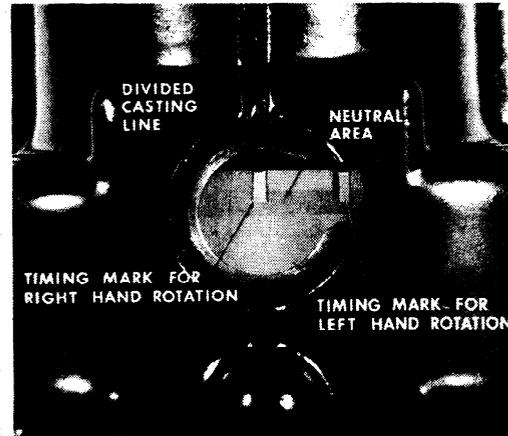

Figure 2. Alignment of Magnet Marks – Right Hand Rotation
b. Continue turning the engine slowly, still in the direction of normal rotation, until the proper timing mark on the rotating magnet is centered in the viewing hole. Figure 2 illustrates the timing mark centered for a right hand rotation magneto. A left hand rotation magneto would have the left hand mark centered. (See figure 2.) Eight cylinder magnetos will show an "R" line or an "L" line on the rotating magnet.
one cylinder firing position until proper timing mark on rotating magnet is in the center of the viewing hole. (See figure 2.)